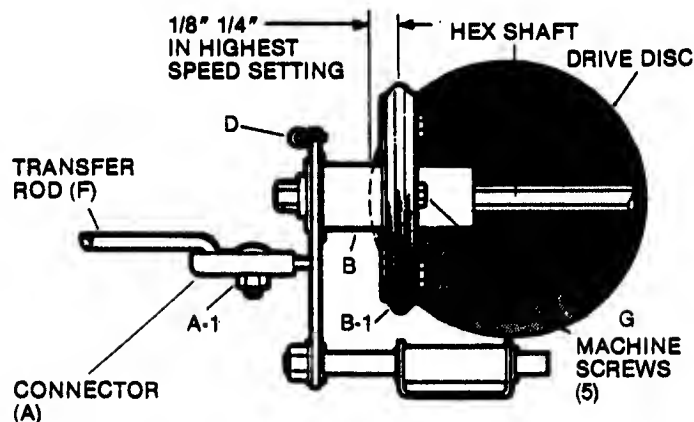

FIG. 13 -DRIVEN DISC COMPONENTS
**DRIVEN DISC ADJUSTMENT:** Stop the engine and shift the GROUND SPEED CONTROL (12) into the highest setting. The CENTER of driven disc should be  $1/8"$  to  $1/4"$  from the EDGE of the drive disc as shown in FIG. 13. To re-adjust, loosen connector hex nut (A-1) and slide the driven disc in or out as required. Re-tighten connector hex nut to secure the driven disc in the proper position.